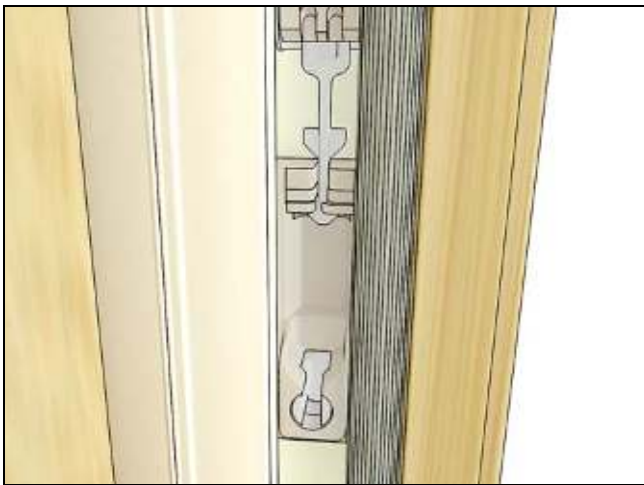

Figure 30
1. Rotate the balance clutch cam to the open locked position (cam opening up) See Figure 30. Release the screwdriver carefully from the clutch assembly (it must lock in place or damage will occur). Compare clutch heights from the sill for the sash affected. They must be within 1/8" (3) of each other or damage may occur when sash are reinstalled. Adjust height as needed.